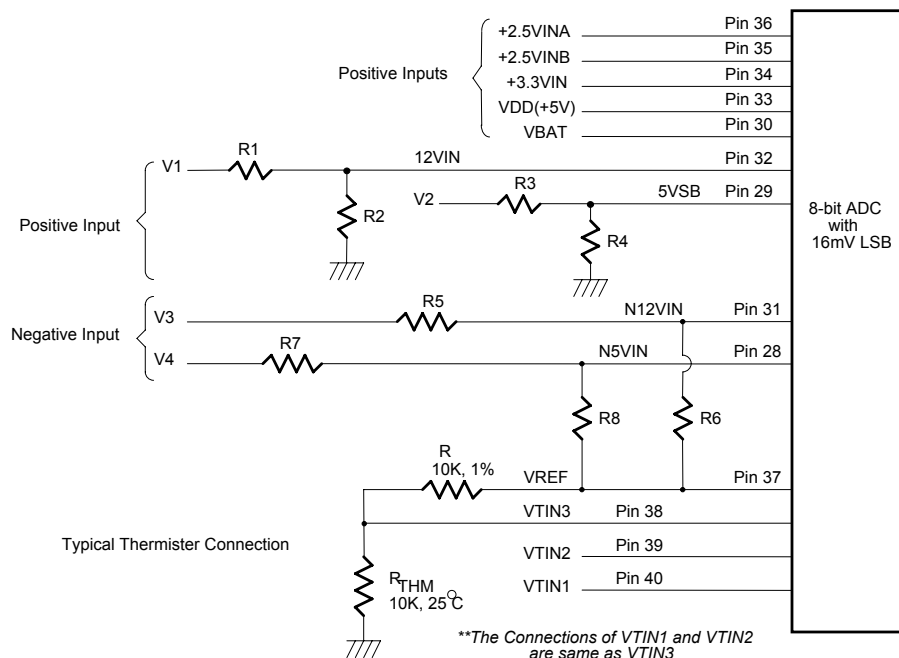

Figure 11.
The maximum input voltage of the analog pin is 4.096V because the 8-bit ADC has a 16mV LSB. Really, the application of the PC monitoring would most often be connected to power suppliers. The CPU V-core voltage, +3.3V and battery voltage can directly connect to these analog inputs. The 5VSB and +12V inputs should be reduced a factor with external resistors so as to obtain the input range. As Figure 11 shows.
The negative voltage should be connected two series resistors and a positive voltage VREF (is equal to 3.6V). In the Figure 11, the voltage V3 and V4 are two negative voltages which are -12V and -5V, respectively. The voltage V3 is connected to two serial resistors then is connected to another terminal VREF which is positive voltage. So as that the voltage node N12VIN can be obtain a posedge voltage if the scales of the two serial resirtors are carefully selected. It is recommended from Winbond that the scale of two serial resistors are R5=232K ohms and R6=56K ohm. The input voltage of node -12VIN can be calculated by following equation.
The W83782D/G can connect three thermistors to measure three different environment temperatures. The specification of thermistor should be considered to (1) β value is 3435K, (2) resistor value is 10K ohms at 25°C. In the Figure 11, the thermistor is connected by a serial resistor with 10K Ohms, then connect to VREF (Pin 37).